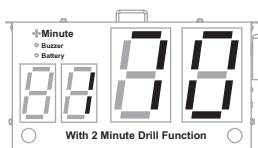

Figure 2
- B. If you use second for this segment, make sure the status indicator "Minute" light is blank(indicating Sec function). (Press M/S button will change the functions between Min and Sec) Use the +1, -1, +10, or -10 button to set desired second(Max 99 seconds). e.g. Set segment time 70 sec for segment 1. see Figure 2.